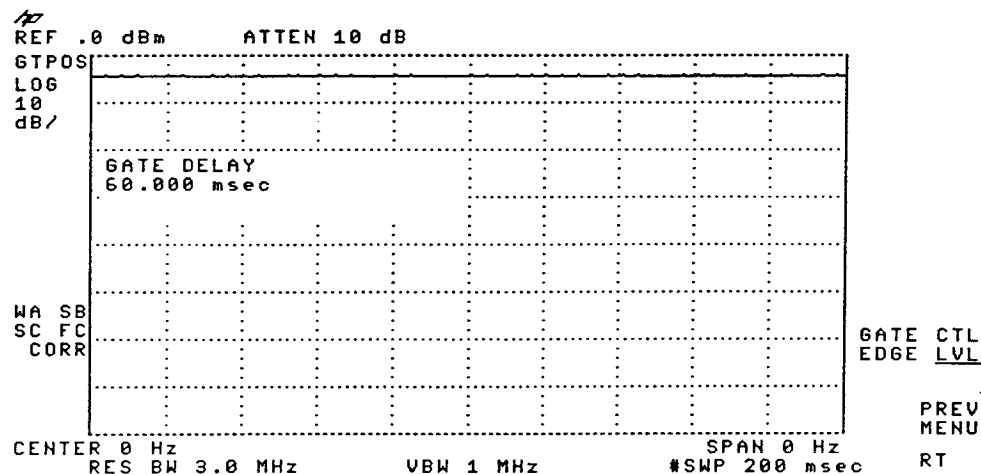

Figure 2-54. Using the Level Gate Control
4. To check the gate control function, press **[SWEEP]**, **[GATE MENU]**, **[GATE CTL EDGE LVL]** so that LVL (level) is underlined. (See Figure 2-54.)